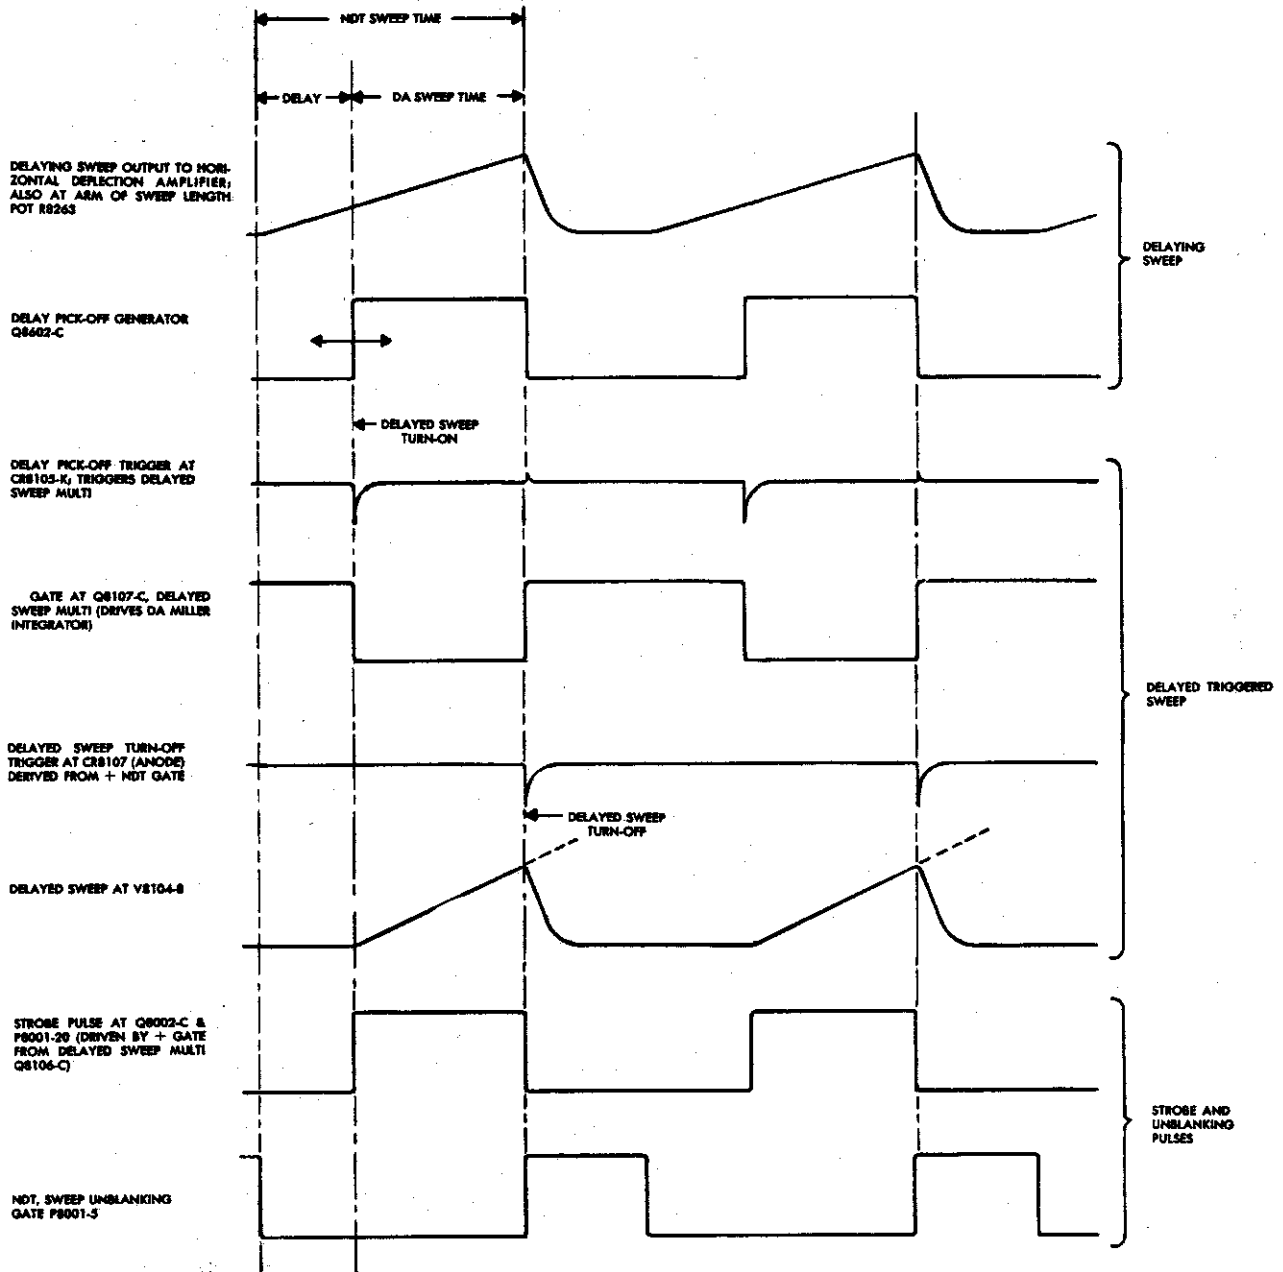

Figure 3-5. -Simplified Timing Diagram for Triggered-Strobe Display
- Figure 3-5. Simplified Timing Diagram for Triggered Strobe Display